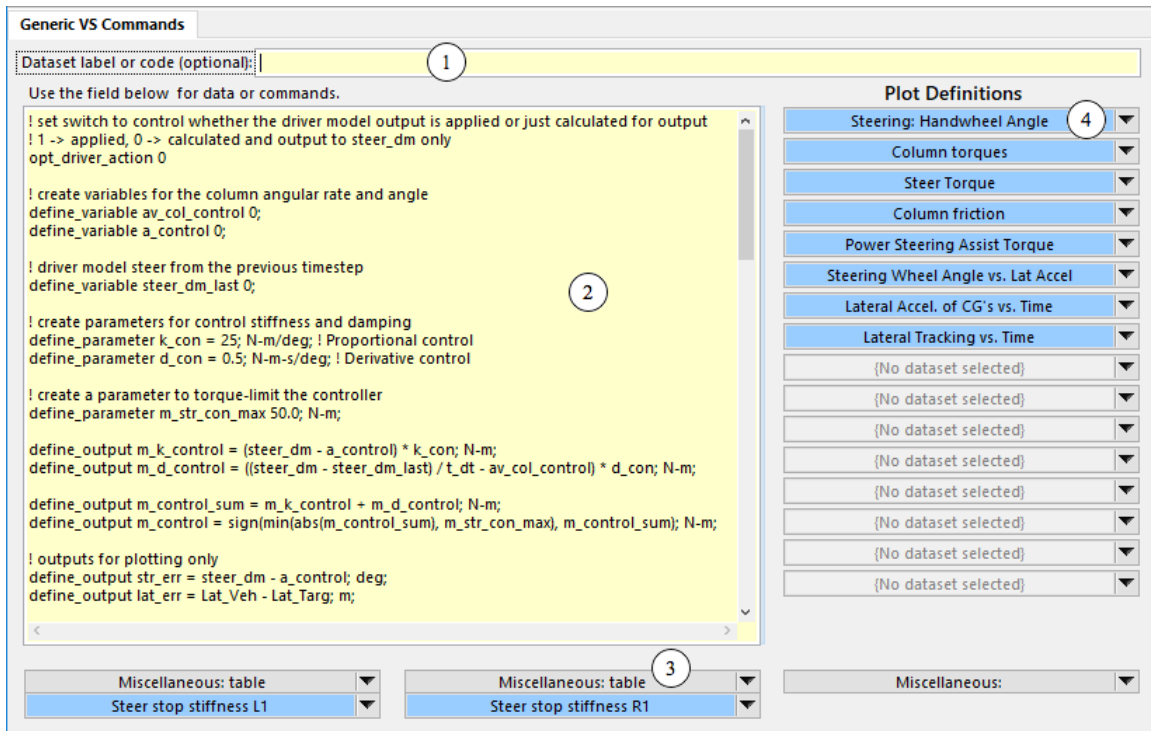

Figure 1. Example generic screen: VS Commands.
The **Generic VS Commands** screen (Figure 1) has four kinds of user settings. The other screens listed in Table 1 only have three kinds of settings (they do not have the plot definition links (4)).
The contents of the miscellaneous data field are identified in the text file with the keywords #MiscYellow0 (line 5) and #ENDMYellow (line 33, highlighted). The contents of the text file between these keywords (lines 6 – 32) contain the information shown in the screen (Figure 1).